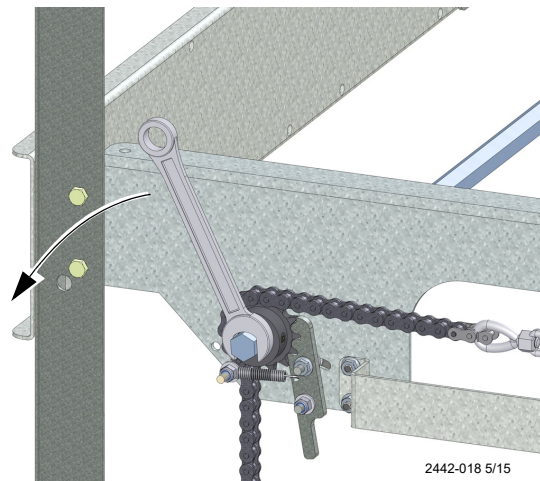

Figure 12. Coarse tension Adjustment (Tightening)
1. One person can increase belt tension by placing a 3/4" Wrench onto the end of the Hex Shaft protruding from either side of the system (See Figure 12.) Make sure that the Sprocket Catch engages the Sprocket when finished tightening.